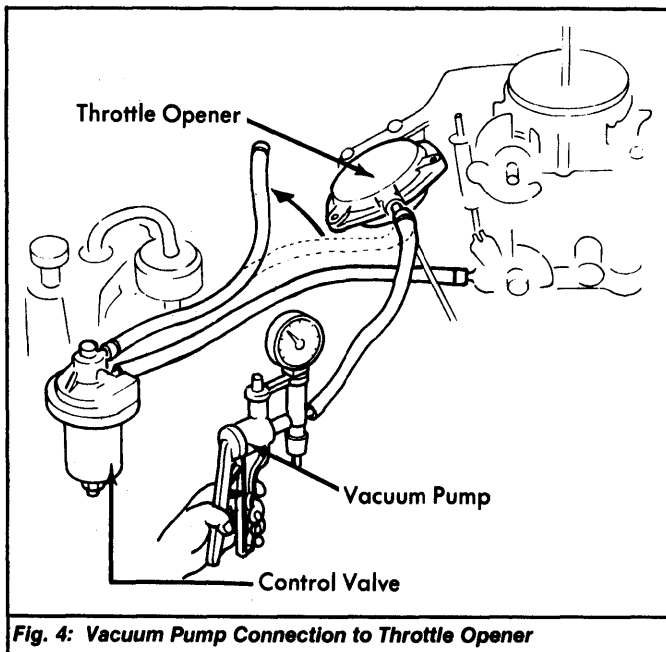

Fig. 4: Vacuum Pump Connection to Throttle Opener
- 2) Connect hand-held vacuum pump to throttle opener and apply at least 16 in. Hg. See Fig. 4. Engine speed should increase to 1600-1700 RPM. Depress accelerator a few times to stabilize engine speed.